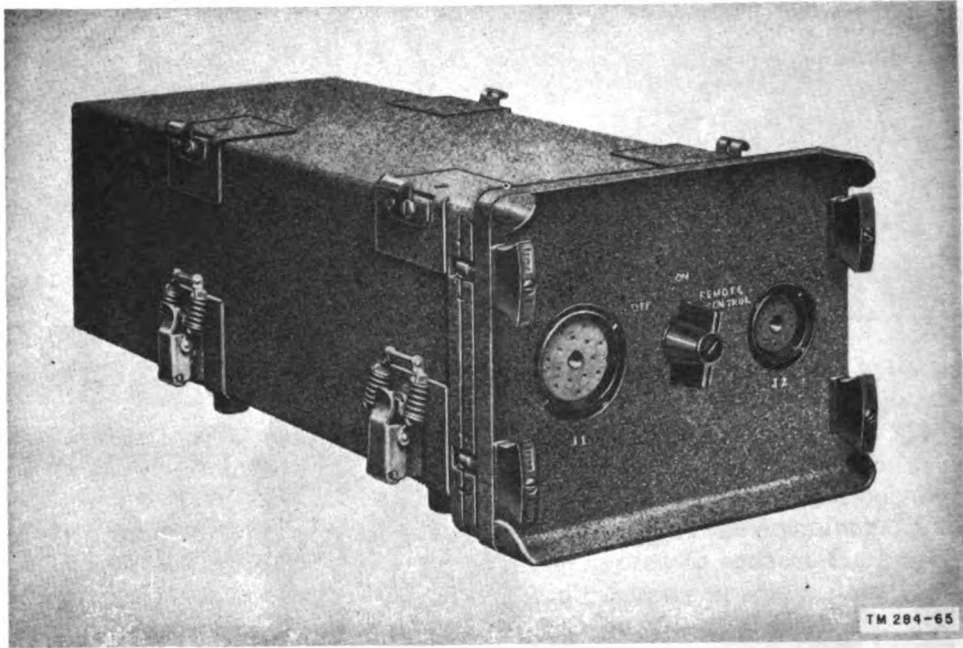
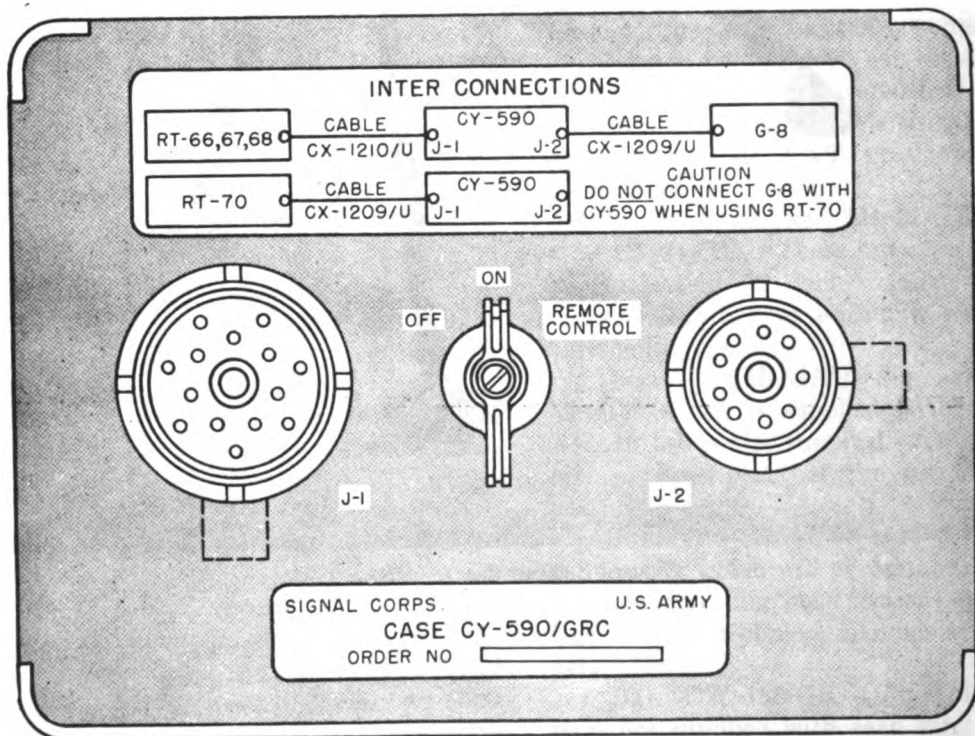

Figure 58. Case CY-590/GRC, front view.
Figure 59. Case CY-590/GRC, front panel.
b. CASE CY-590/GRC (fig. 58).
(1) Case CY-590/GRC is a battery box which holds five series-connected 1.5-volt batteries (Battery BA-403/U) and one 90-volt battery (Battery BA-419/U).
(2) Two receptacles and a switch are mounted on the front panel of the battery case (fig. 59). The receptacles are used for interconnecting the battery case with the receiver-transmitter (Set 1) and the hand generator. The switch is used to complete or break the battery circuits to the receiver-transmitter with which the battery case is used. The REMOTE position of the switch does not apply to Radio Sets AN/VRC-13, -14, and -15.